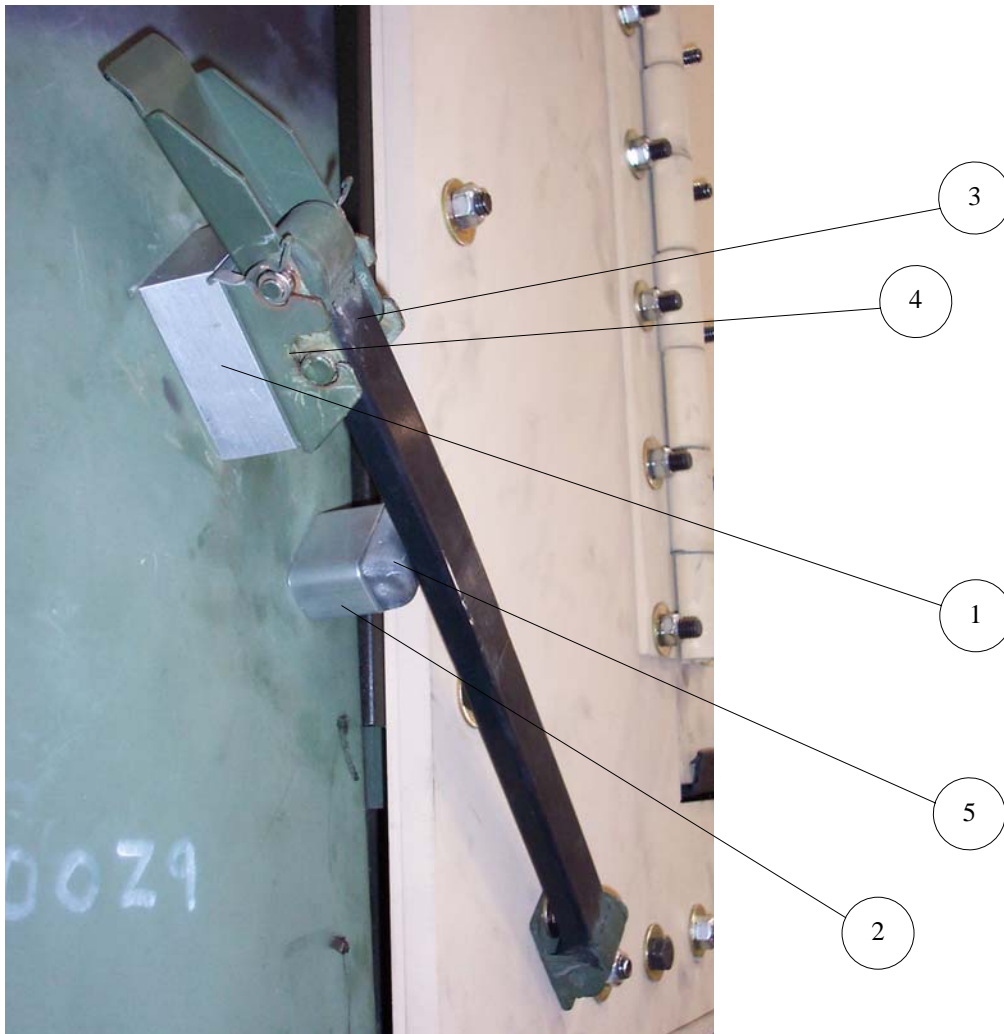

Figure 4-2. Hood Clamping Catch and Button Press Point Spacer Installation
7. Install Clamping Catch and Button Press Point Spacers to hood as shown. (See Figure 4-2)
- b. Insert Clamping Catch Spacer (1) and Button Press Point Spacer (2) and re-install components from 7.a. using new fasteners: longer bolts (3), locknuts (4), and screws (5). (Fasteners not seen, as components are shown assembled in Figure 4.2.)